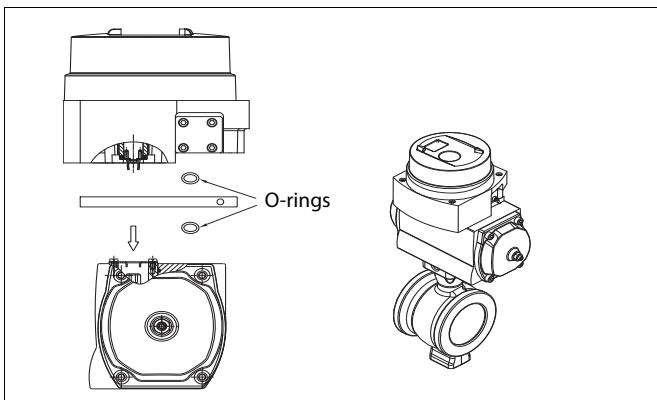

Fig. 4 Mounting on EC and EJ actuators,
- Mount the U-shaped coupling (47) to the shaft. Apply thread-locking compound to the screws (48) and tighten firmly.
- Remove the protective plastic plugs from pneumatic connections C2, S and C1. Mount the metal plugs (54) to the unused controller connections with sealant.
- For EJ (single acting, spring to close) and EJA (single acting, spring to open) actuators, leave the metal plug (54) in the C1 connection at the bottom of the controller and remove the metal plug from the C2 connection at the bottom.
- Mount the O-rings (38, 4 pcs.) into the air connections in the bottom of the controller and the mounting plate (64).
- Install the mounting plate (64) on the actuator as shown in 12.5.
- Place the valve controller on top of the actuator so that the pointer is located in the position shown in Fig. 4.
- Fasten the screws (4).